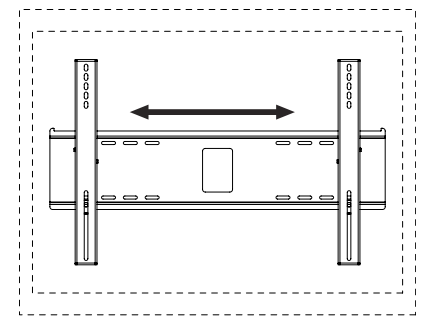

fig 7.2
Screen Adjustment: Screen can be adjusted horizontally by loosening security screw three full turns using allen wrench (L). Adjust screen as shown in figure 7.2. Tighten security screw.